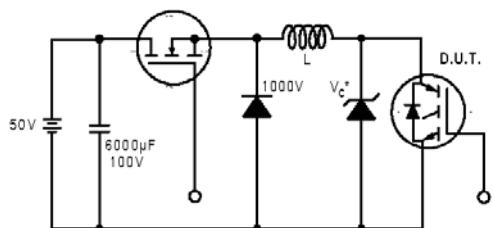

Figure 19. Clamped Inductive Load Test Circuit
- ② $V_{CC}=80\%$ (V_{CES}), $V_{GE}=20V$, $L=10\mu H$, $R_G = 50\Omega$ (figure 19)
- ③ Pulse width $\leq 80\mu s$; duty factor $\leq 0.1\%$.
- ④ Pulse width $5.0\mu s$, single shot.